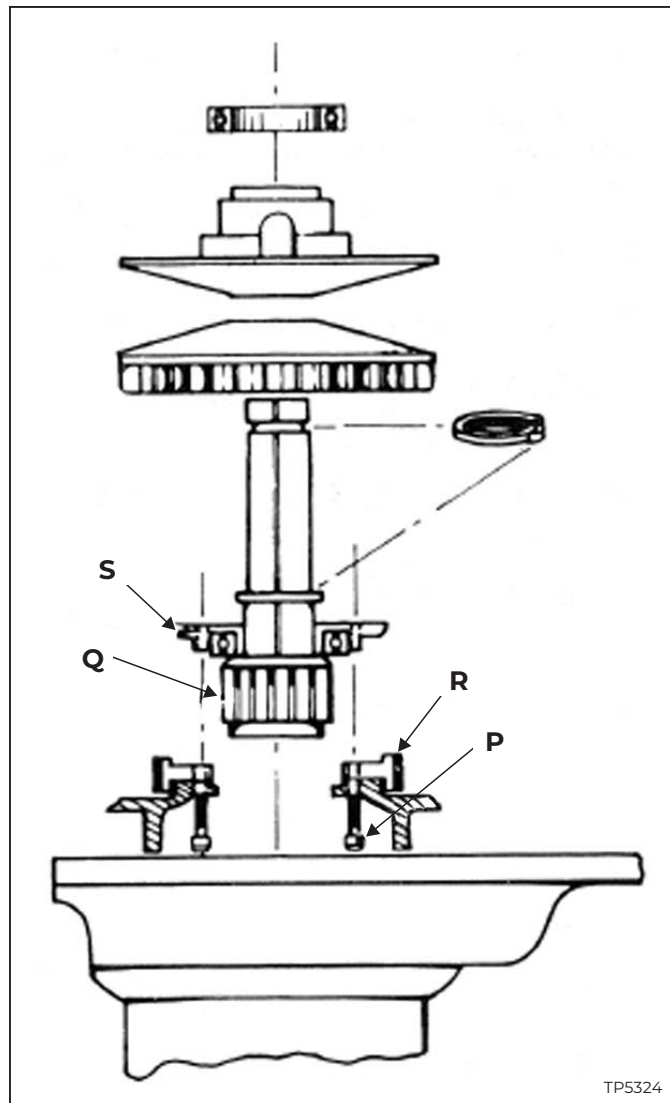

Figure 3.5 - Brake Shoe Replacement
2. Remove the two screws "P", Figure 3.5.